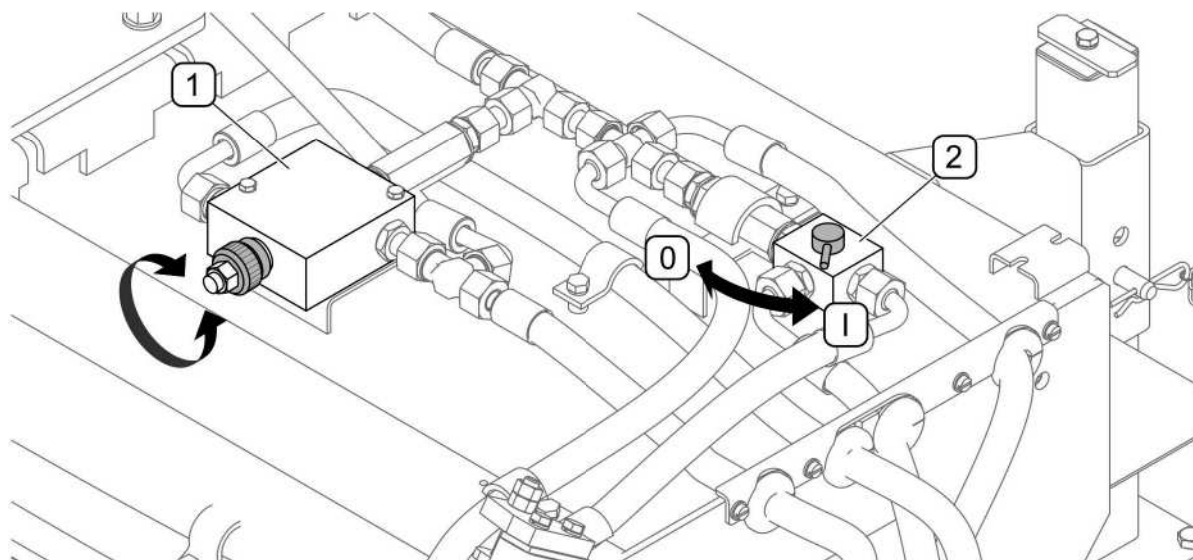

FIG. 5.7 Side brush drive flow regulator selective control valve
(1) - oil flow regulator; (2) - side brush drive selective control valve; (I) - brush drive on; (0) - brush drive off
The sweepers with side brush are equipped with oil flow controller (1) (FIG. 5.7) for smooth side brush speed control relative to the sweeping roller brush. Speed is controlled using a knob.
Use a selective control valve (2) to turn off the side brush drive (FIG. 5.7) by putting the lever in position (0).